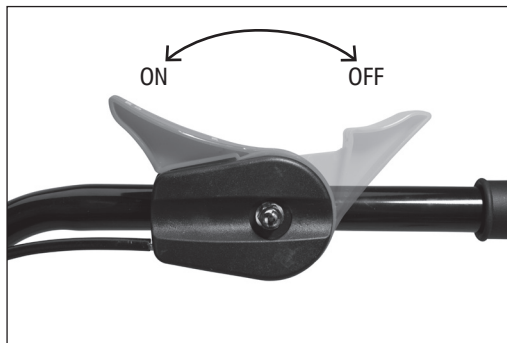

Fig. 15
The engine control lever (6) acts as the throttle and controls the supply of fuel to the engine. The lever position is variable between two points (Fig. 15):